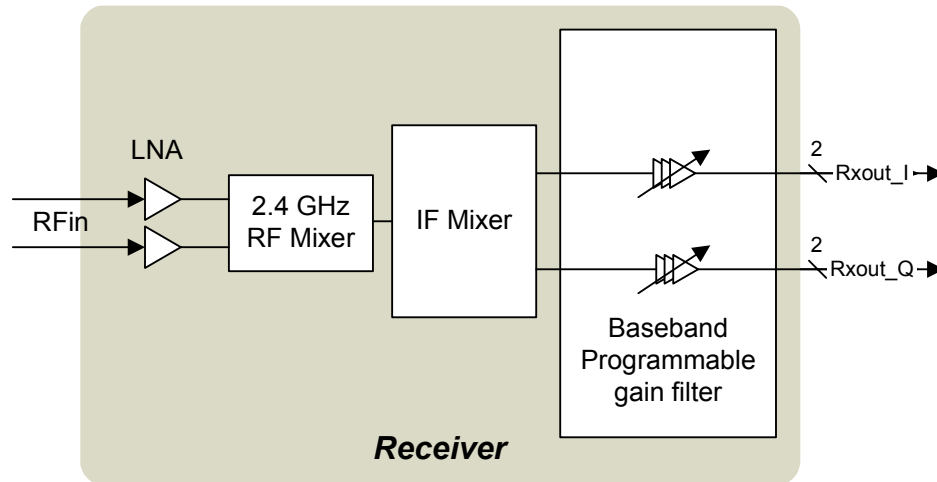

Figure 3-2. RF Receiver Functional Block Diagram
The receiver implements an integrated down-conversion architecture that eliminates the requirement for an external intermediate frequency filter, while providing the advantages of traditional heterodyne approaches. The receiver topology includes a low noise amplifier (LNA), a radio frequency (RF) mixer, an intermediate frequency (IF) mixer, and a baseband programmable gain amplifier (PGA) as shown in Figure 3-2. The RF mixer converts the output of the on-chip LNA to an intermediate frequency. The IF mixer